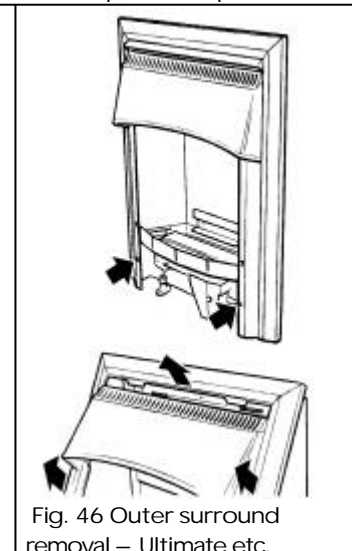

Fig. 46 Outer surround removal – Ultimate etc.
13.3.3 Remove the two screws securing the bottom of the front surround to the sides of the convection box (See fig. 46).